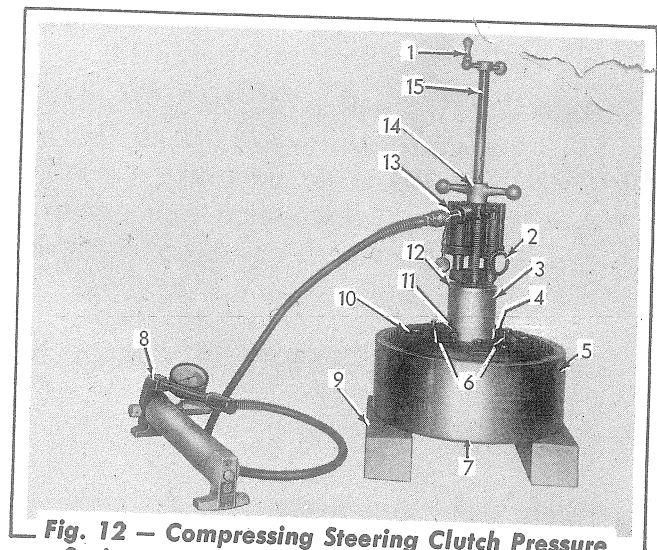

Fig. 12 — Compressing Steering Clutch Pressure Springs to Install Throwout Plate Capscrews
5. Place the brake drum, final drive side downward, over the throwout plate. Keep the brake drum raised even with the throwout plate by placing wooden blocks between the drum and the work bench as shown in Fig. 12.
8. Install 2 aligning studs (Fig. 12) through the throwout plate spacers and screw the studs into the plate. Install the clutch back plate in position on the clutch hub.
9. Install the same clutch discs on the hub in the positions as originally installed in Step 2 above. Place the pressure plate in position, making certain the punch marks are aligned. Place the tool step plate on the clutch hub followed by the tool compressing tube (Fig. 12).